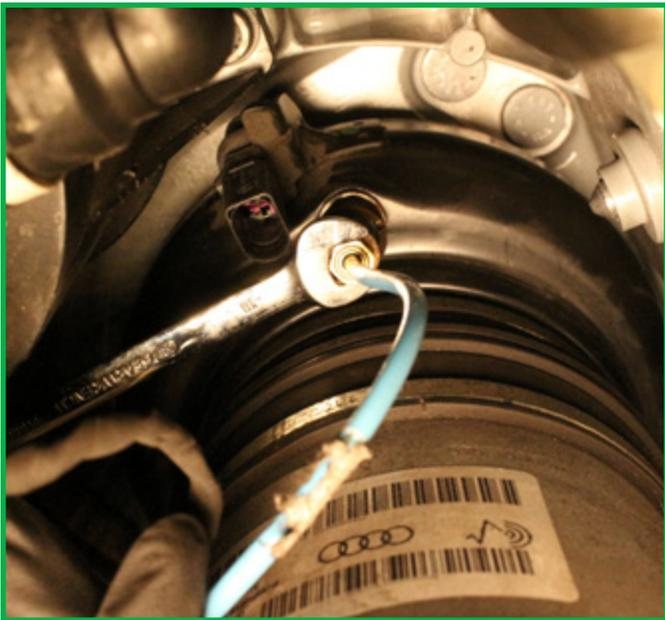

FIGURE 6
5. Disconnect air line VOSS fitting from air check valve. (Figures 6, 7)